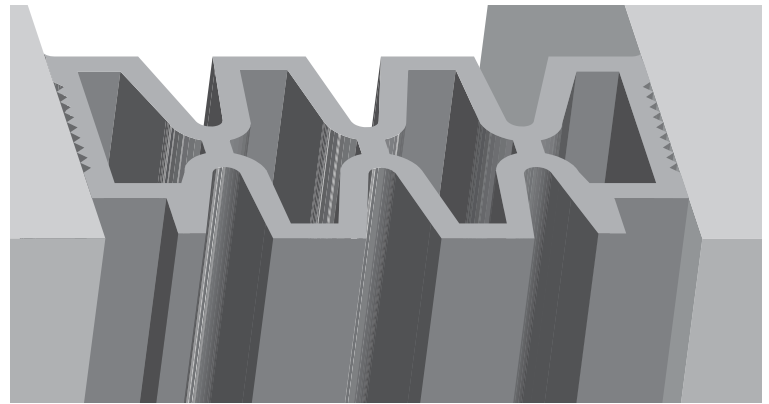

Figure 7—Placement of Joint in an Irregular Installation
3. Compress the seal, with the tab side out, and insert it into the joint (Figure 7).